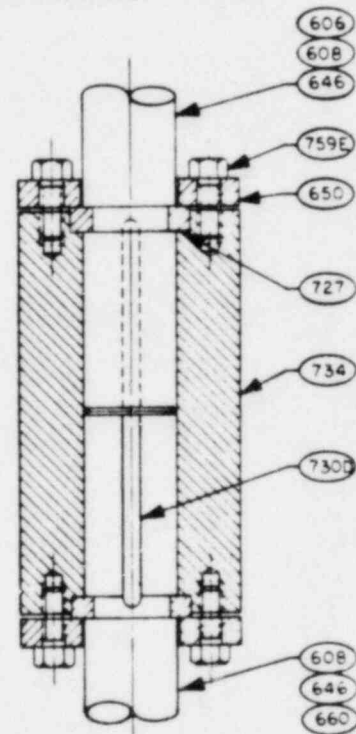

Figure 6-2. KEYED SHAFT COUPLING
1. Install bottom retainer (650) and insert key (730D) onto shaft. (See figure 6-2).
2. Lower coupling sleeve (734) onto shaft approximately one inch.
3. Insert bottom split ring (726), lower coupling sleeve until it bottoms against split ring.
4. Secure bottom retainer (650) with capscrews (759E).
5. Slide retainer (650) onto shaft away from shaft groove. Insert key (730D) onto lineshaft (646) and